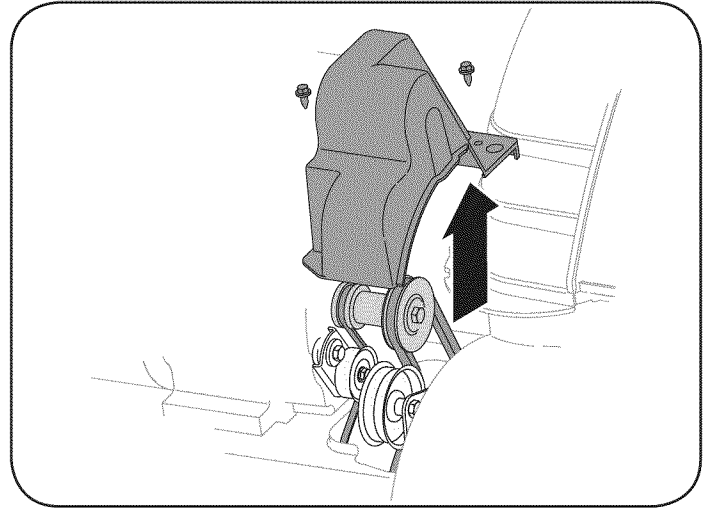

Figure 27
2. Remove the plastic belt cover on the front of the engine by removing the two self-tapping screws. See Figure 27.
2. Remove the plastic belt cover on the front of the engine by removing the two self-tapping screws. See Figure 27 on previous page.